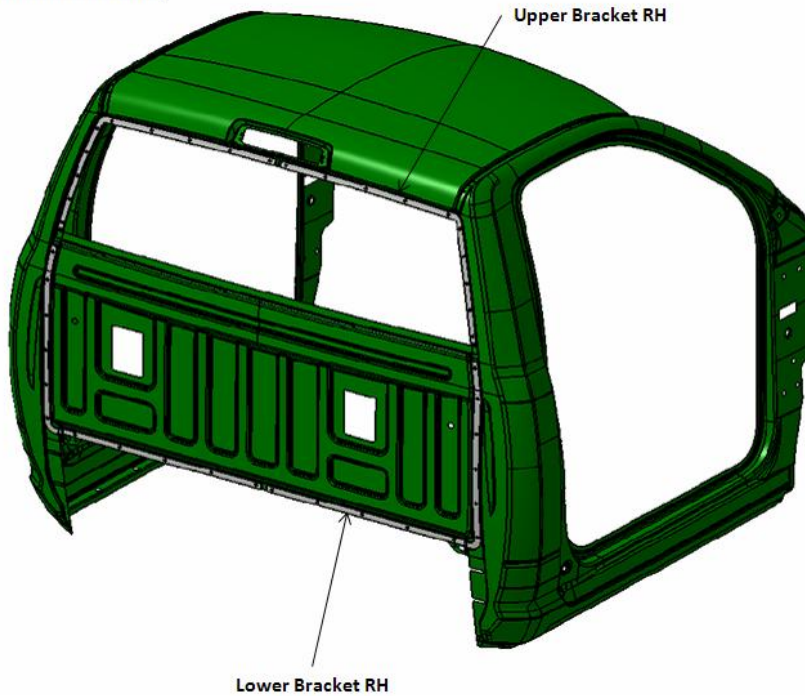

Fig. 6
- The reinforcements shown in Figs. 6 and 7 MUST be properly installed after ANY portion of the rear window or cab back is removed. The reinforcement must be made to print. The CAD model is available on the body builder's website.